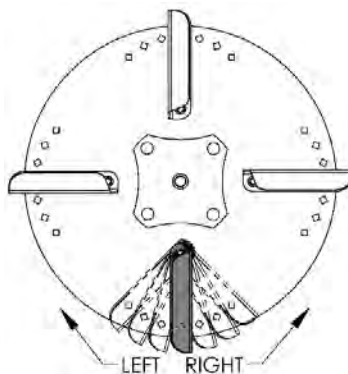

FIGURE 14.1
- The adjustable Fins will let you fine tune the spread pattern. Move the Fins in the direction that you want more material to be applied(e.g. If the material is spreading too heavy to the left then move the Fins to the right for the spread to become heavy on the right). See **FIGURE 14.1**.